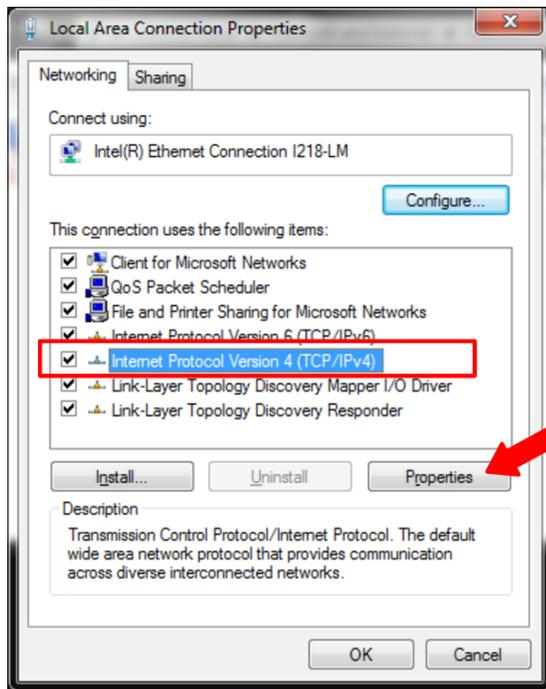

Figure 2.4: Setting TCP/IPv4 properties
4. In the “Local Area Connection Properties” window, confirm or place the check mark in front of “Internet Protocol Version 4 (TCP/IPv4)”(see Figure 2.4).